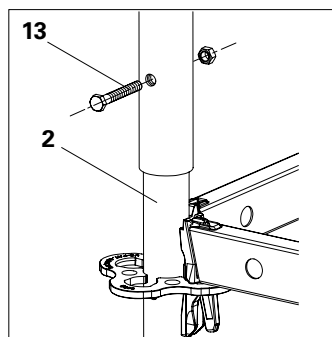

Fig. A2.07a
3. Tightly connect Standard UVR (**4**) and Base Standard UVB 24 (**2**) using Bolts M10x80.8.8 and Nuts (**13**). (Fig. A2.07a/A2.07b)